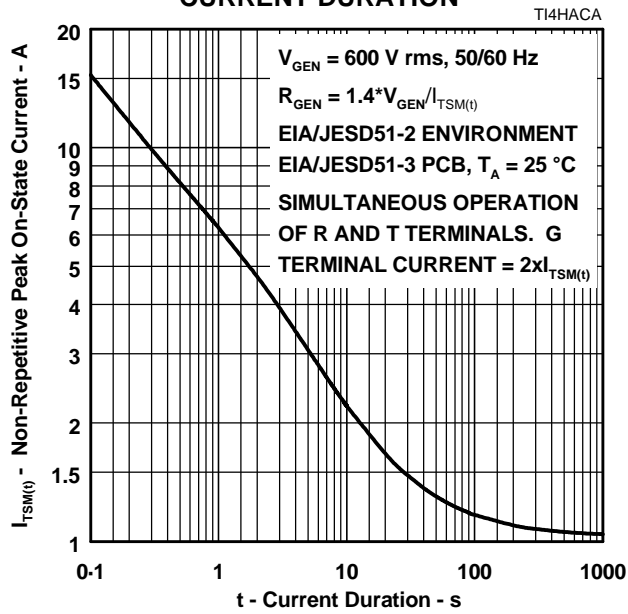

Figure 8.
5. EIA/JESD51-2 environment and EIA/JESD51-3 PCB with standard footprint dimensions connected with 5 A rated printed wiring track widths. See Figure 8 for the current ratings at other durations. Figure 8 shows the R and T terminal current rating for simultaneous operation. In this condition, the G terminal current will be $2 \times I_{TSM(t)}$, the sum of the R and T terminal currents. Derate current values at -0.61 %/ $^\circ\text{C}$ for ambient temperatures above 25 $^\circ\text{C}$.
The protector can withstand the G return currents applied for times not exceeding those shown in Figure 8. Currents that exceed these times must be terminated or reduced to avoid protector failure. Fuses, PTC (Positive Temperature Coefficient) resistors and fusible resistors are overcurrent protection devices which can be used to reduce the current flow. Protective fuses may range from a few hundred milliamperes to one ampere. In some cases it may be necessary to add some extra series resistance to prevent the fuse opening during impulse testing. The current versus time characteristic of the overcurrent protector must be below the line shown in Figure 8. In some cases there may be a further time limit imposed by the test standard (e.g. UL 1459 wiring simulator failure).